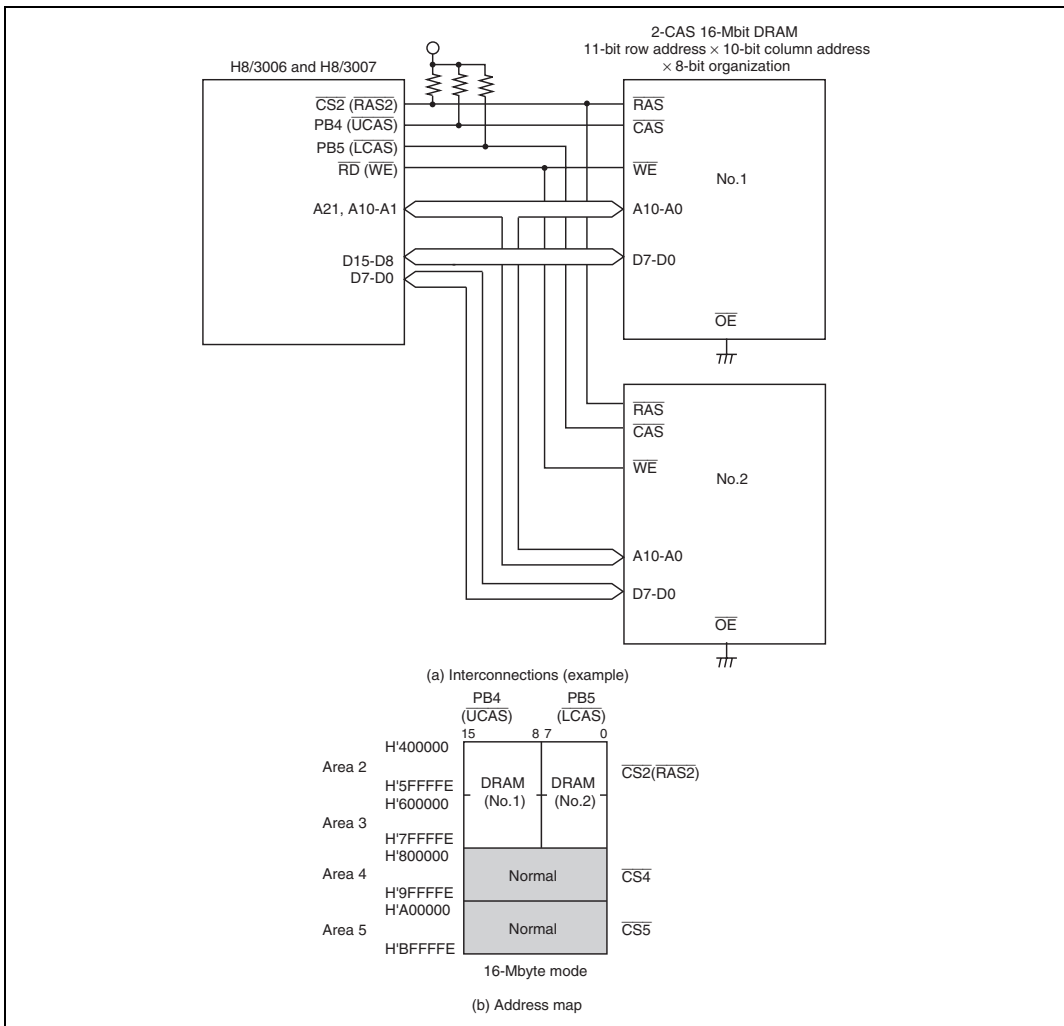

Figure 6.30 Interconnections and Address Map for 16-Mbit DRAMs with $\times 8$ -Bit Organization
- Figure 6.30 shows typical interconnections when using two 16-Mbit DRAMs using a $\times 8$ -bit organization, and the corresponding address map. The DRAMs used in this example are of the 11-bit row address \times 10-bit column address type. The $\overline{\text{CS2}}$ pin is used as a common $\overline{\text{RAS}}$ output pin for area 2 and area 3. When the $\overline{\text{DRAM}}$ address space spans a number of contiguous areas, as in this example, the appropriate setting of bits DRAS2 to DRAS0 enables a single $\overline{\text{CS}}$ pin to be used as the common $\overline{\text{RAS}}$ output pin for a number of areas, and makes it possible to directly connect large-capacity DRAM with address space that spans a maximum of four areas. Any unused $\overline{\text{CS}}$ pins (in this example, the $\overline{\text{CS3}}$ pin) can be used as input/output ports.